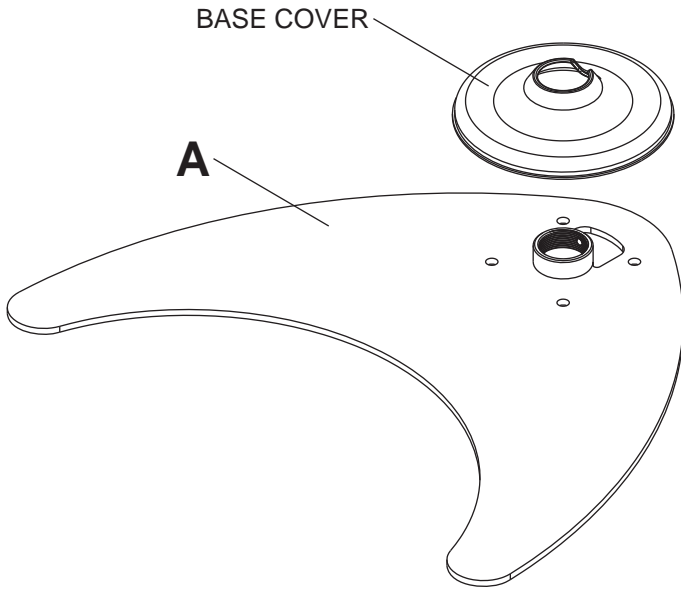

fig 1.1
- 1 Remove base cover from base (**A**) as shown in figure 1.1.